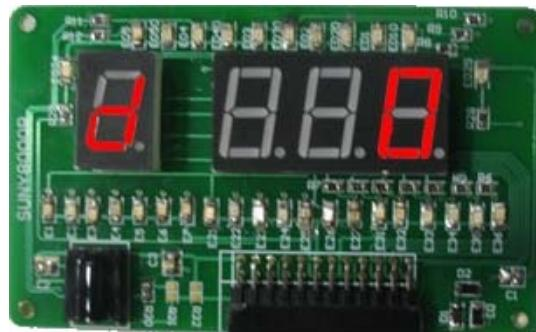

Fig. 4
- Press [NSE] button, panel shows as Fig.4.